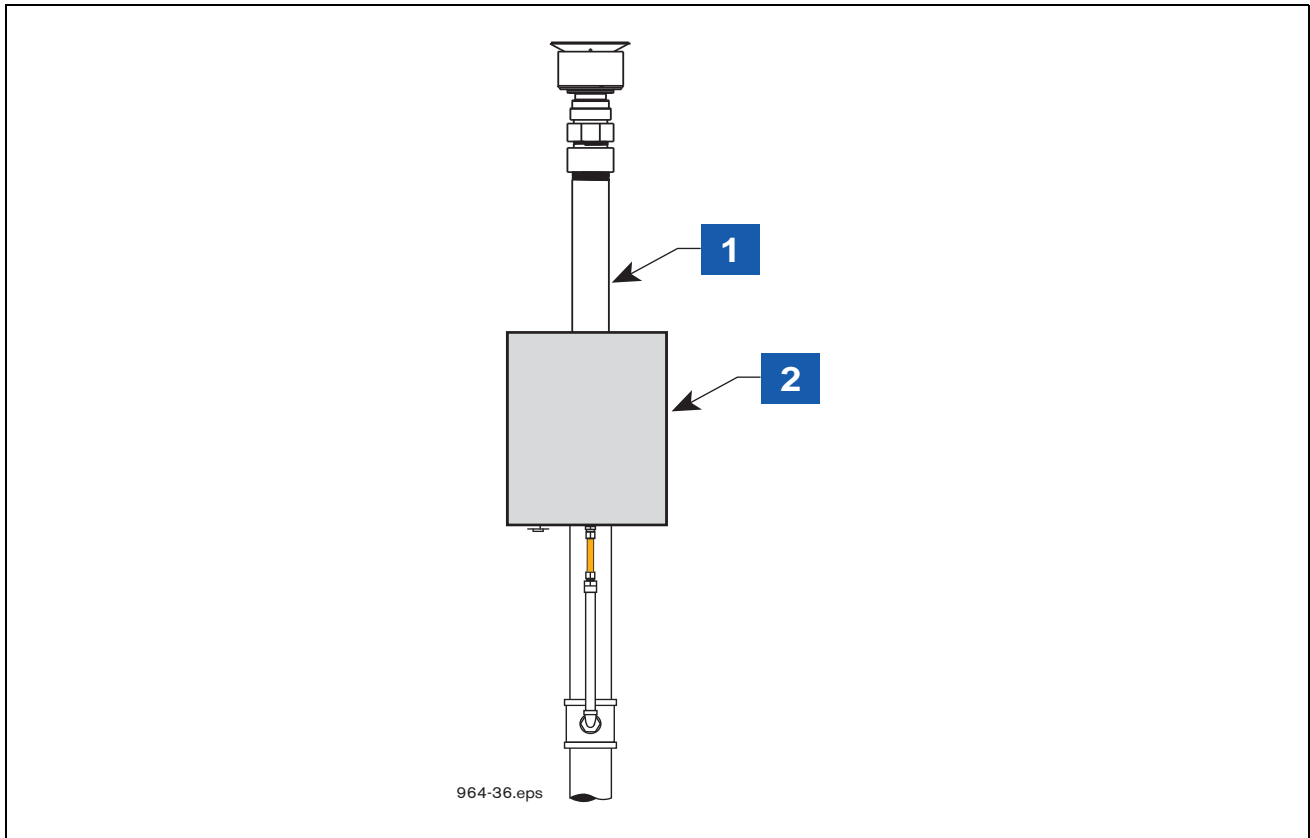

Figure 15. VRPS Mounted In Universal Enclosure On The Vent Stack
1. A Transmitter/battery pack pair must be installed with the Veeder-Root Vapor Return Pressure Sensor (VRPS) in the Universal Enclosure and mounted on the vent stack (see Figure 15).
| LEGEND FOR NUMBERED BOXES IN Figure 15 | |